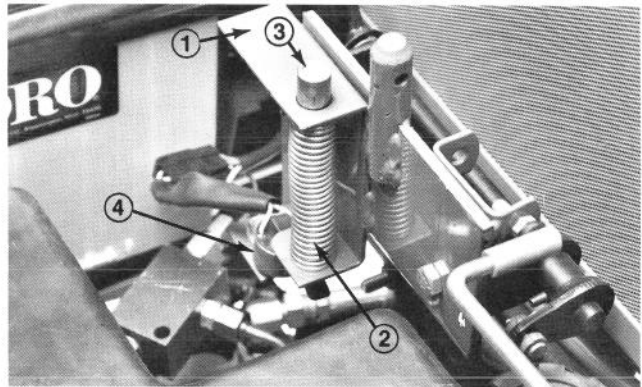

Figure 6
2. Mount seat support bracket to frame (Fig. 6).
3. Remove seat switch from shipping bracket and mount to seat support bracket using same fasteners (Fig. 6). Connect switch connector to main wire harness connector (Fig. 6).
3. Remove seat switch from shipping bracket and mount to seat support bracket using same fasteners (Fig. 6). Connect switch connector to main wire harness (Fig. 6).